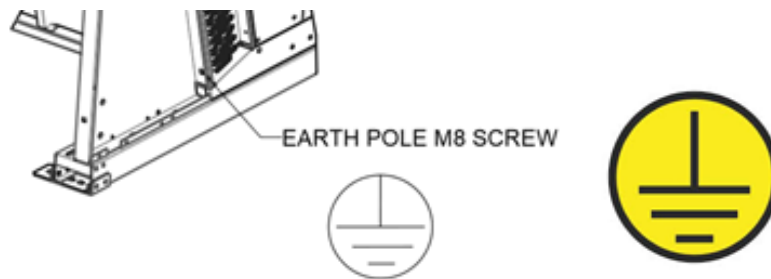

Fig. 6.3 - Detail of the position of the ground pole.
Before connecting the unit to the electricity network, check that the disconnection and interruption devices from the power supply network have been used, and anything else required by current legislation at installation site. The unit is equipped with one or more ground poles (PE) with an identification label. **It is mandatory to connect all the ground poles of the unit to the system or to the external grounding conductor (see Fig. 6.3).**